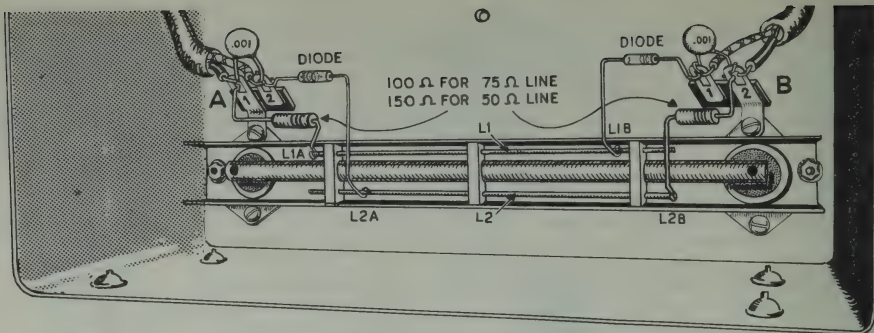

Figure 1
- (1) Place the two pieces of #14 wire through the holes in the plastic spacers. Center the spacers and wire, allow 1/4 inch of wire outside of the end spacers for connection of parts. Refer to Figure 1 (completed bridge). Spacers may be held in place with a tiny dot of nail polish, household or model cement.
- (2) Temporarily fasten the 2-lug terminal strips to the coax connectors at points A and B. Use 1/4" 4-40 PHMS and #4 nuts. Observe closely that the terminal strips are reversed physically and must conform with Figure 1.
- (3) Select two of the four resistors furnished with the kit. If the AM-2 is to operate on a 75Ω line, use the 100Ω (brown-black-brown) resistors. If the AM-2 is used with a 50Ω line, use the 150Ω (brown-green-brown) resistors. Fasten the two unused resistors to the bottom or side of the cabinet with a piece of scotch or similar tape. (They may be needed at a future date.)
- (4) Cut and form the leads of one of these resistors to conform with Figure 1. Connect one end to A1 (NS). Connect opposite end to L1A (S-1). A solid "tacking" technique is adequate. Solder the resistors to the end of the pickup link.
- (5) Select one of the two diodes, identified by observing the colored bands on a body of glass.
- (6) Connect the lead nearest the red band to A2 (NS).
- (7) Measure 5/8" from the left end of L2 and tin this point lightly with the soldering iron. Use a good grade of radio solder.
- (8) Connect remaining lead of Diode #1 to the point mentioned in above step, L2A (S-1). May be solidly "tacked".
- (9) Bend the leads of the remaining resistor of the set selected as shown in Figure 1.
- (10) Connect proper end to B2 (NS). Connect remaining end to L2B (S-1). May be "tacked".
- (11) Bend the leads of the second diode to conform with Figure 1, observe red band (cathode) marking.
- (12) Connect the lead nearest the red band to B1 (NS).
- (13) Measure 5/8" from the right end of L1 and tin this point lightly.
- 7) Duplicate above step with the remaining .001 disc ceramic except install it at B1 and B2. Refer to Figure 1 on the above steps.
- 7) Remove the #4 nuts which temporarily held the 2-lug terminal strips and install the completed bridge in the cabinet. Install assembly to conform with Figure 1. Use 1/4" 4-40 PHMS, #4 lockwashers and #4 nuts.